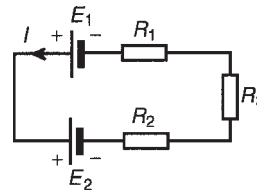

Figure 15.2
- (b) **Voltage Law.** In any closed loop in a network, the algebraic sum of the voltage drops (i.e. products of current and resistance) taken around the loop is equal to the resultant e.m.f. acting in that loop. Thus, referring to Fig. 15.2:
(Note that if current flows away from the positive terminal of a source, that source is considered by convention to be positive. Thus moving anticlockwise around the loop of Fig. 15.2, E_1 is positive and E_2 is negative.)